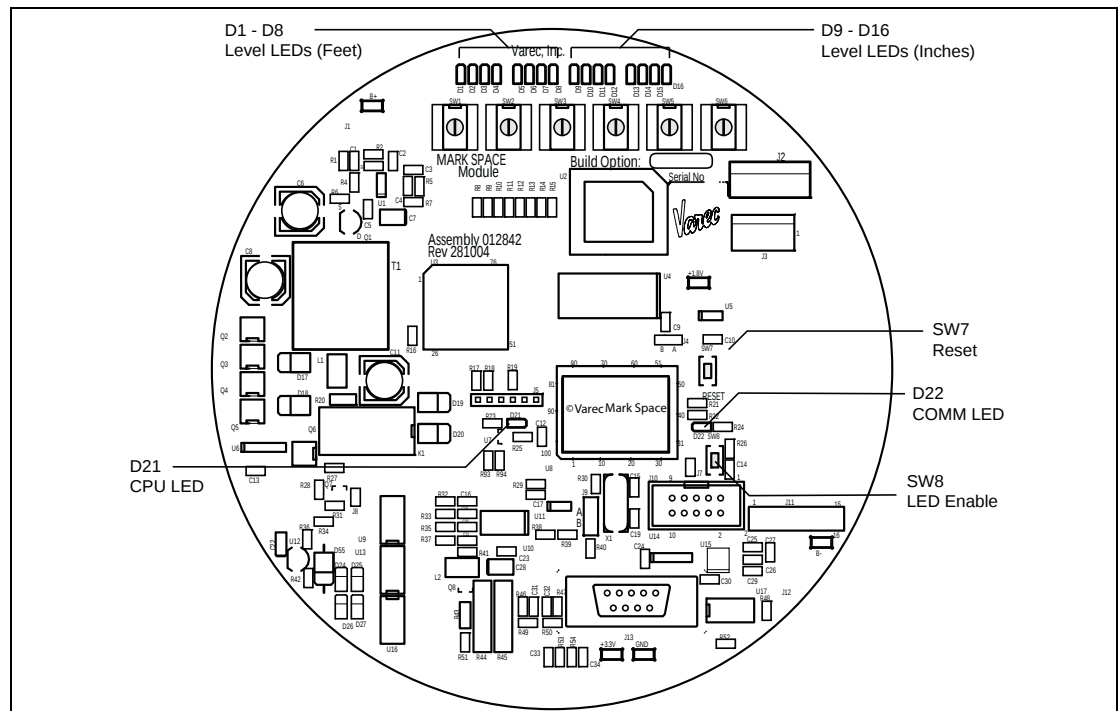

Figure 9–6: Communications Board Diagnostic Switches and LEDs (Mark/Space shown)
2. Press switch SW8 on the communications circuit board. The LEDs illuminate. See Figure 9–6 for switch and LED locations.